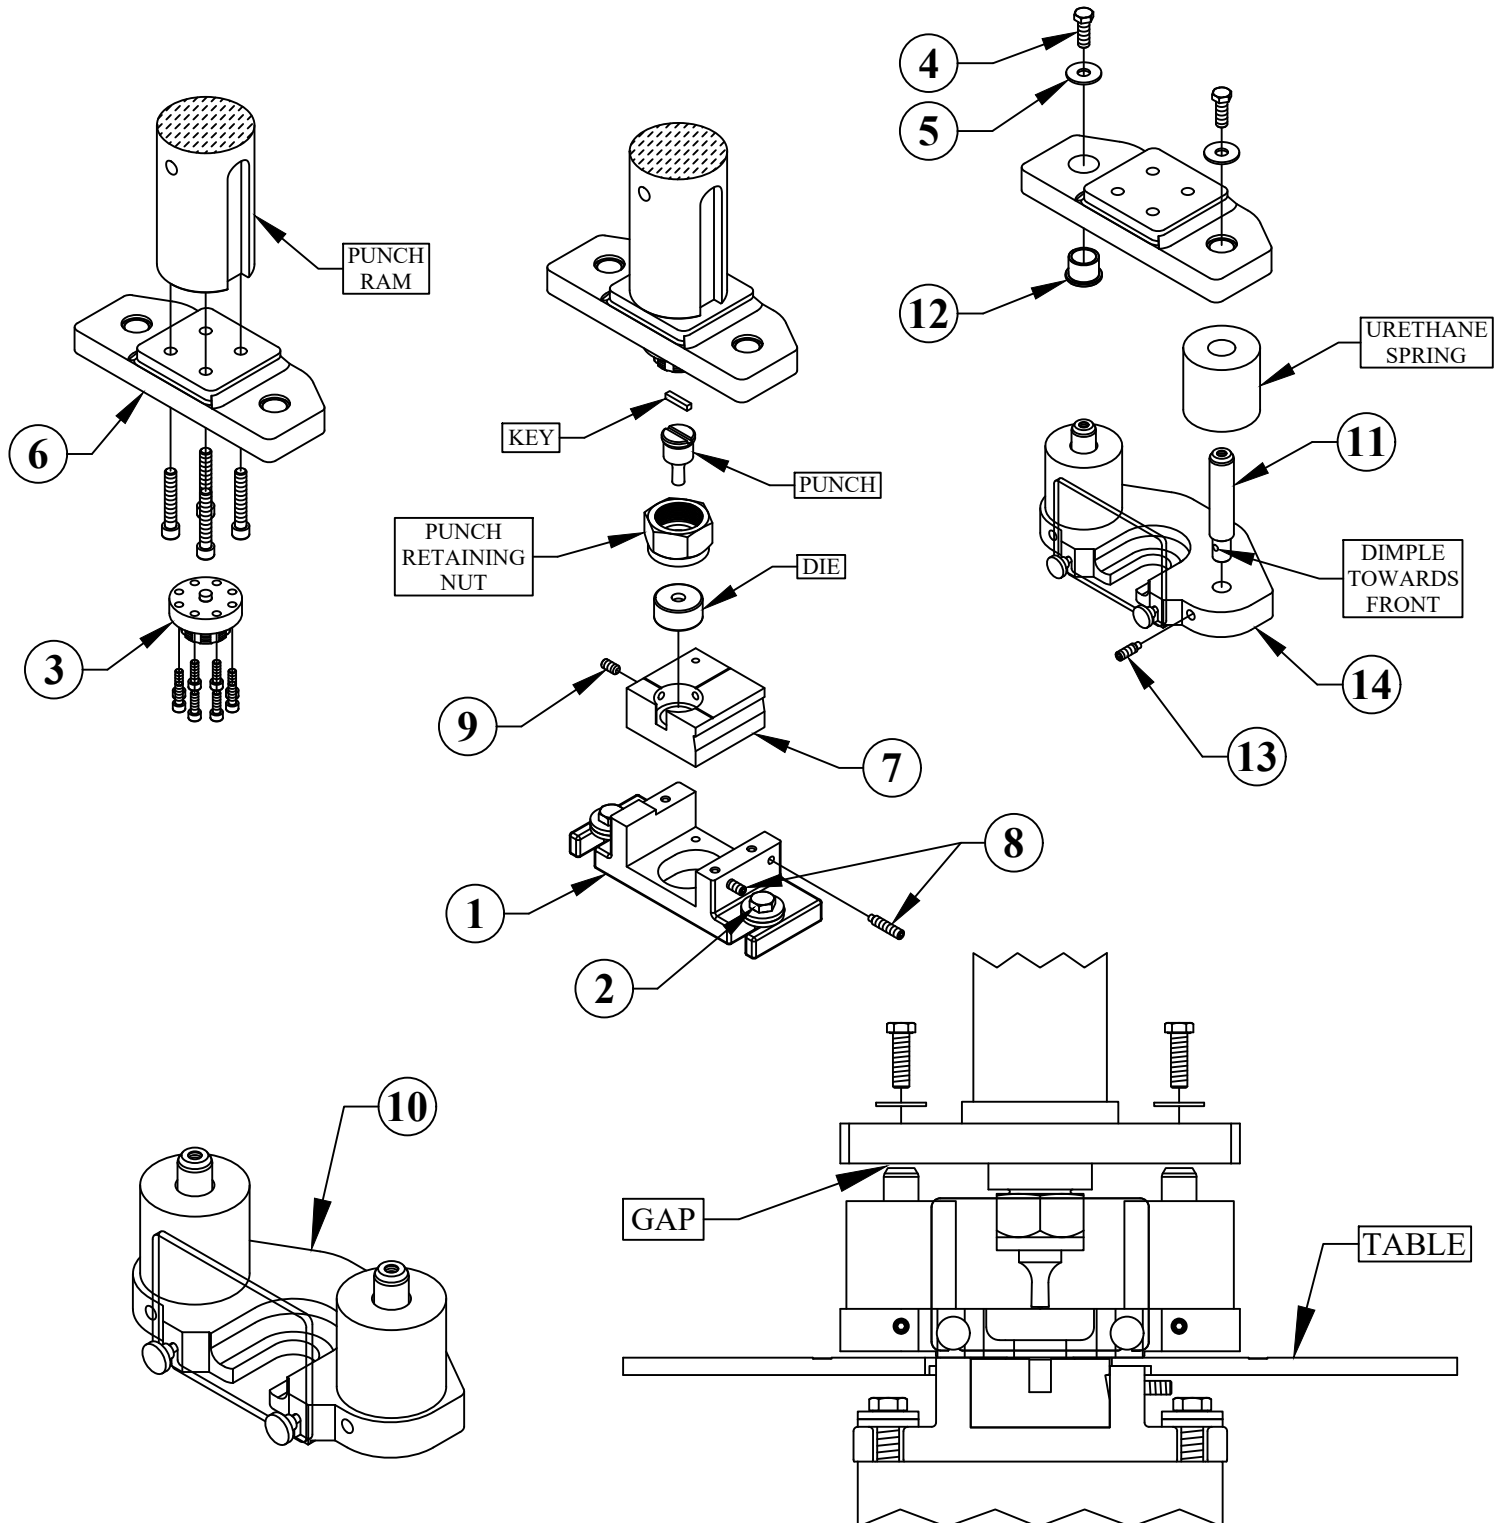

FIGURE 56
20. Power the machine on and place the selector switch in the JOG position. Carefully inch the punch ram down until there is just enough space to slide the lower assembly (10) underneath the stripper mounting plate and power off the machine. (See "Gap" IN FIGURE 56).
► **NOTE: LINE UP THE POSTS (11) OF THE LOWER ASSEMBLY WITH THE
SEE FIGURE 56
If the unit is constantly over stroked or over a period of time, it may be necessary to renew the urethane springs. REFER TO FIGURE 56. The springs should be checked periodically. (A sure sign of over stroking is cracking or splitting of the springs.)
- 4. If the posts have become loose in the stripper plate, remove the appropriate set screws, (or if the set screws have already been removed), apply a thread locking solution such as Blue Loctite® and reinsert the set screws, making sure they are inserted into the dimples on the bottom of the posts (SEE "DIMPLE TOWARDS FRONT" IN FIGURE 56).**